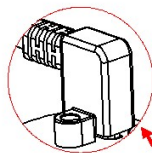
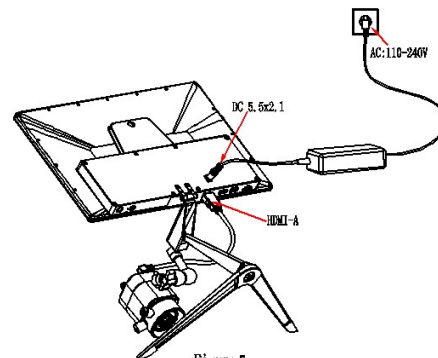

Figure 4
Figure 5
- 1) Connect mini port of the HDMI cable with the HDMI Mini port of the camera, and fasten it with the screws provided, as shown in Figure 4; the other end HDMI-A is connected to the display monitor, as shown in Figure 5.
- 2) Power the display screen with provided 110-240V AC plug, as shown in Figure 5.